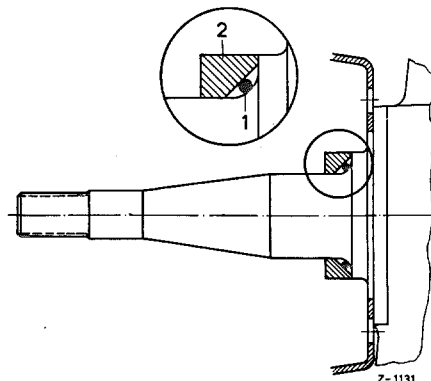

Fig. 33-5/1
In the case of the 2nd version the spacer ring (2) is shrunk on the wheel spindle. On some older cars of Models 180, 180 D, and 220 a, on which the spacer ring is not shrunk on, grease may extrude between the ring and the wheel spindle and may soil the brake linings. To prevent this, rubber ring (1) Part No. 120 332 01 59 can be installed between the ring and the collar on the steering knuckle (Fig. 33-5/1).